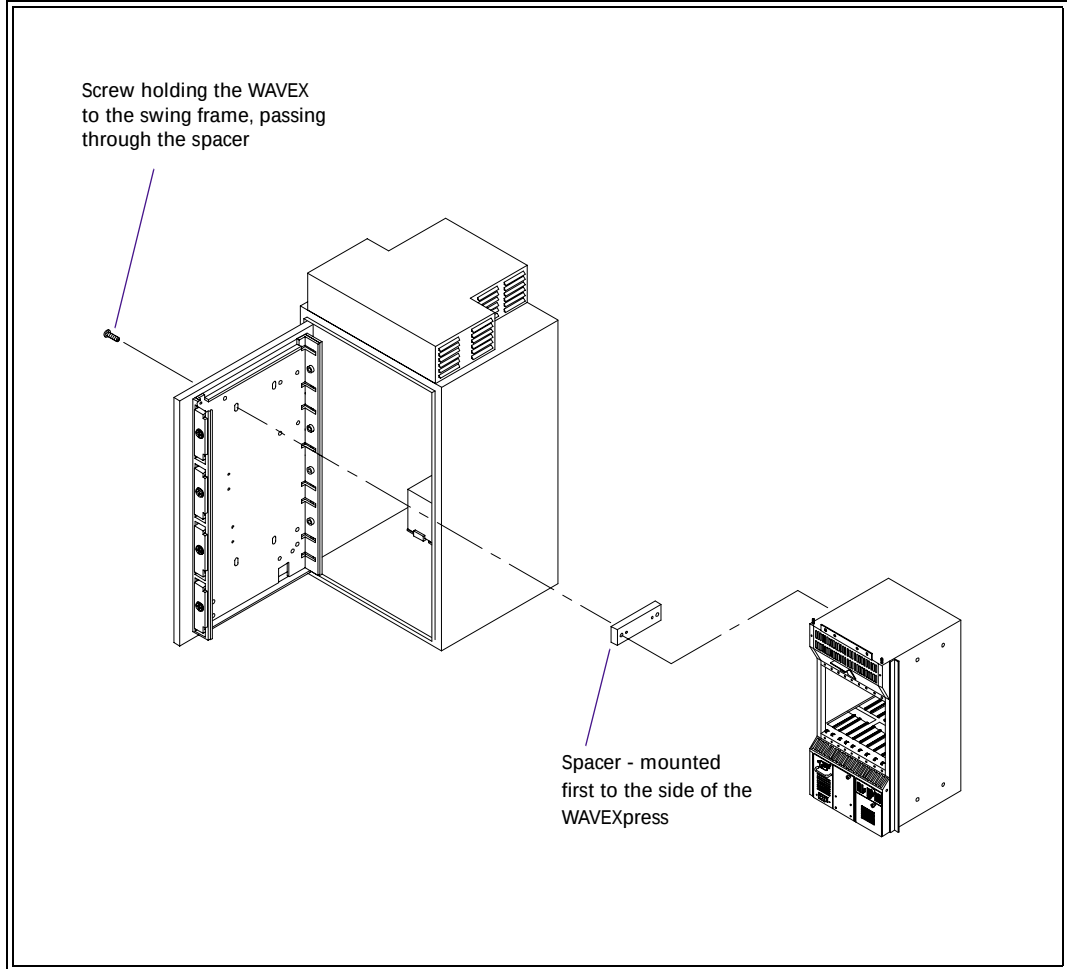

Figure 3-16: Mounting of the spacers to the WAVExpress (only 1 spacer shown for clarity)
- Step 3** Spacers must be added to the WAVExpress for it to sit flush against the mounting frame. To do this, mount the two 3/8" thick spacers to the left side of the WAVExpress using two 10-32 screws for each plate, as shown in Figure 3-16 : "Mounting of the spacers to the WAVExpress (only 1 spacer shown for clarity)" on page 53.